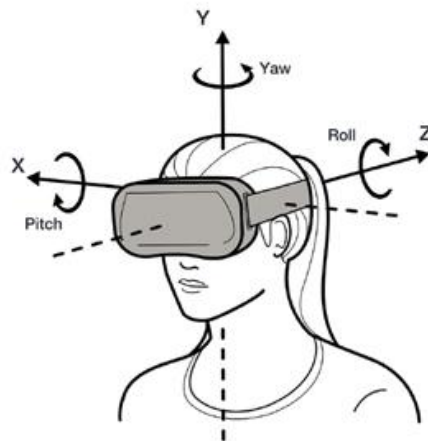
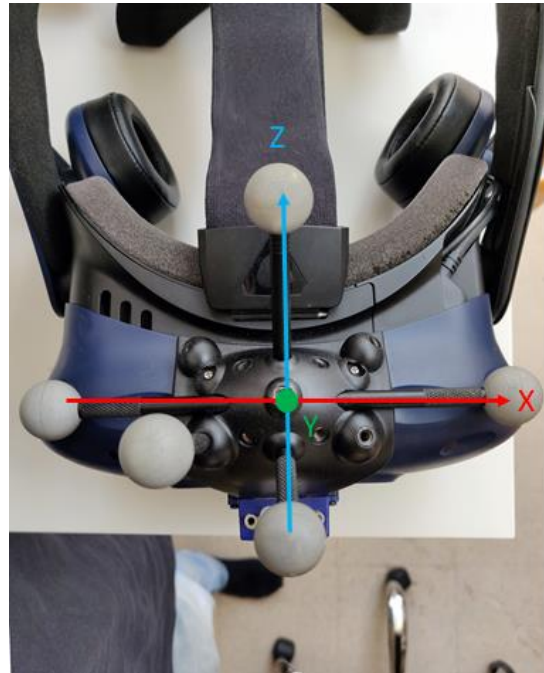
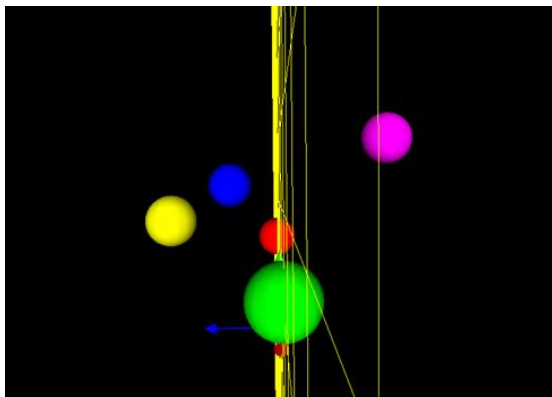
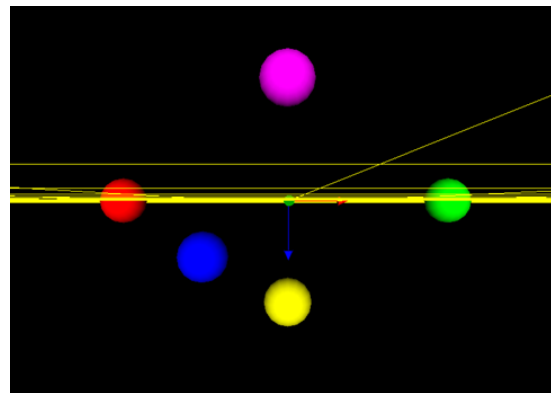

Figure 7 - OpenVR coordinate system alignment
Figure 9 - Example marker arrangement, top view.
Figure 12 - Correctly aligned body origin, side view along X-axis
Figure 13 - Correctly aligned body origin, top view along Y-axis
2. The rigid body in the optical tracking system software should be aligned to fit with the OpenVR alignment standard as shown below (Figure 7, Figure 8, Figure 9, Figure 10, Figure 11, Figure 12, Figure 13). The center (the position source) of the rigid body needs to be adjusted, so that it lies closely on the upper part of the nose, in the middle between the eyes of the user, while wearing the headset. This position needs to be manually adjusted to be accurate. Direction of the user’s gaze should be the Z-axis of the rigid body.